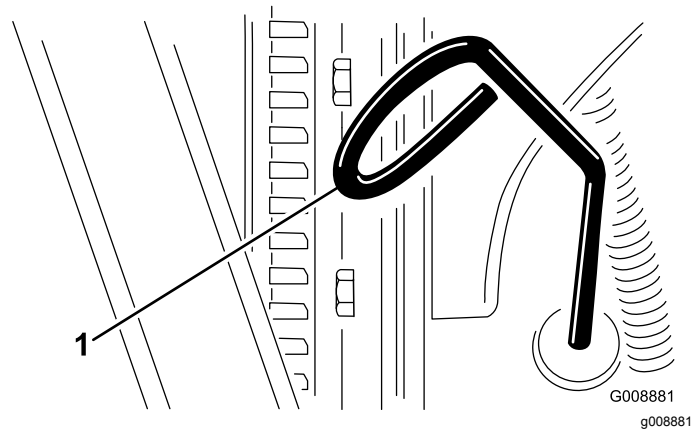

Figure 47
3. Remove the dipstick, wipe it clean, and install it (Figure 47).